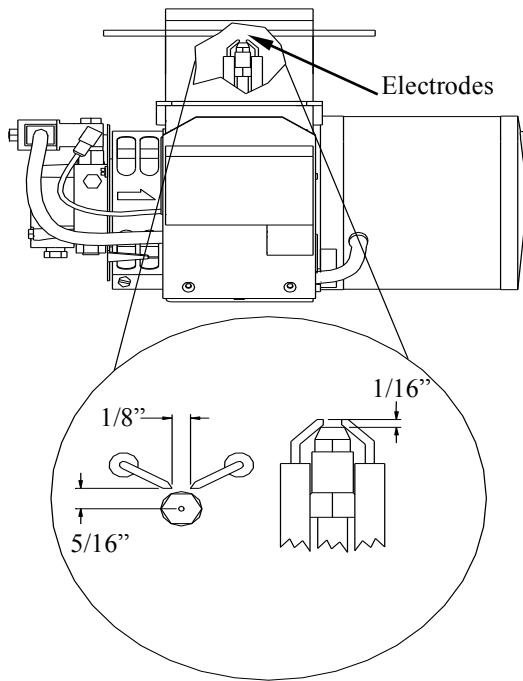

Figure 23
- Reset the spacing as shown below in Figure 23.